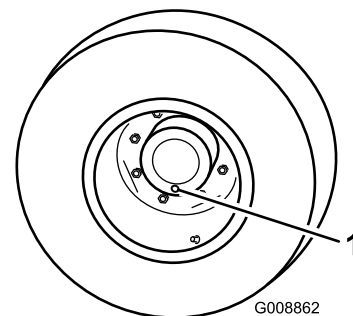

Figure 58
1. With the machine on a level surface, position a wheel so a check plug is at the lowest (6 o'clock) position (Figure 58).